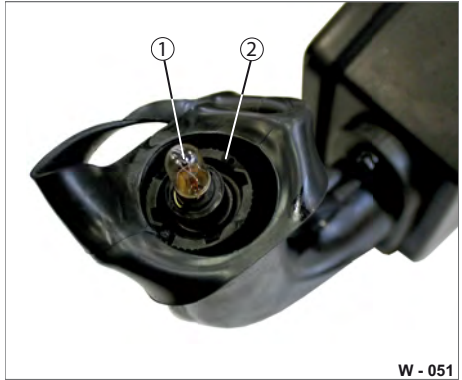

Fig. 49 Replacing the lamp
- ▶ Unscrew the defective lamp (Fig. 49/1).